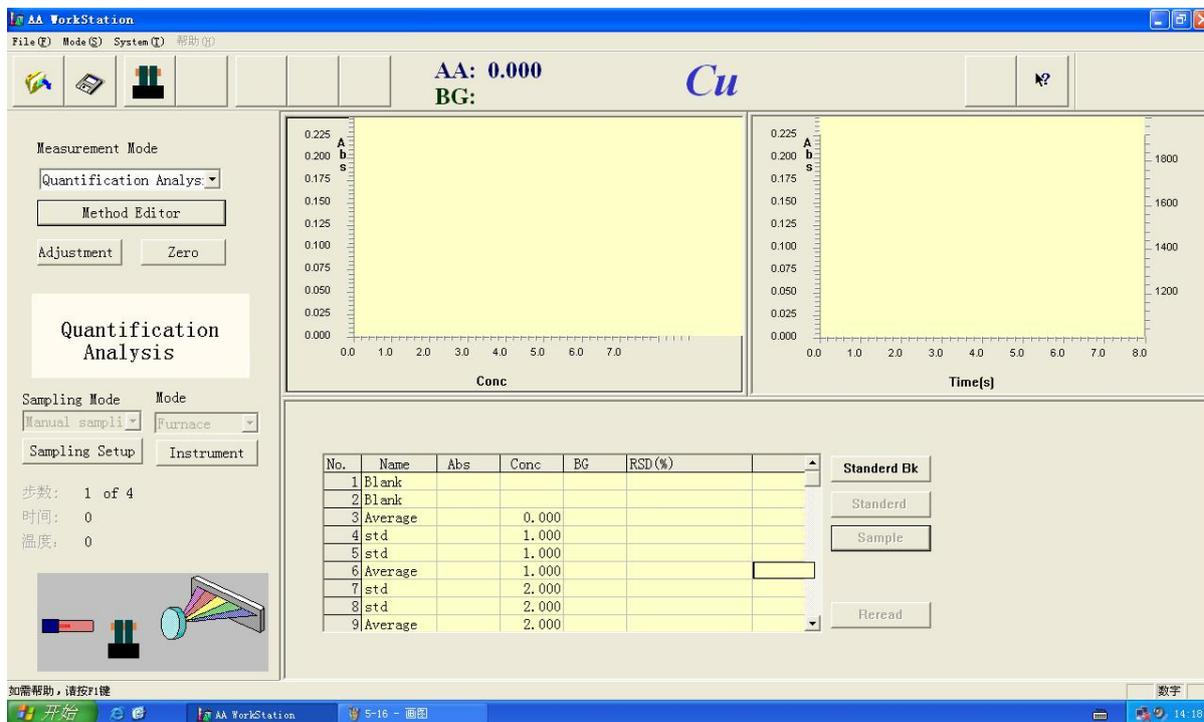
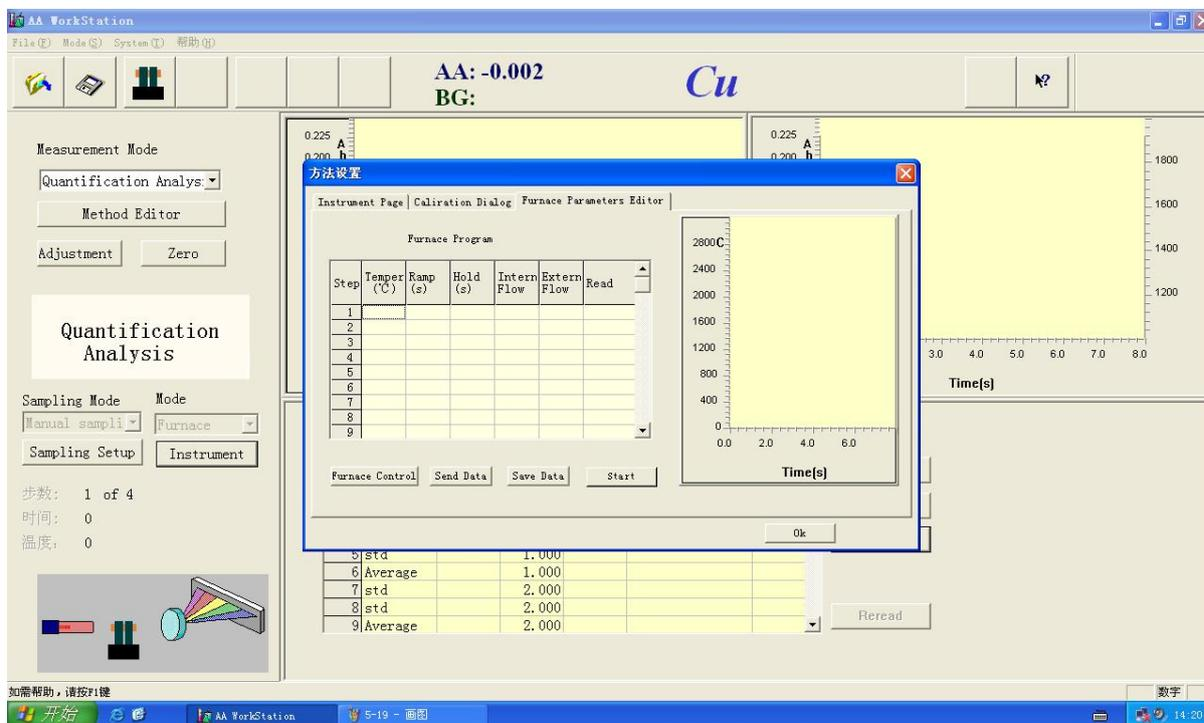

Figure 5-17
Figure 5-18
6. Press 【OK】 ,close the dialog box,”Standard Bk”brighten.figure5-17
7. Press **【Instrument】** (Figure 5-17),"Furnace Parameters Editor" is displayed,see Figure 5-18